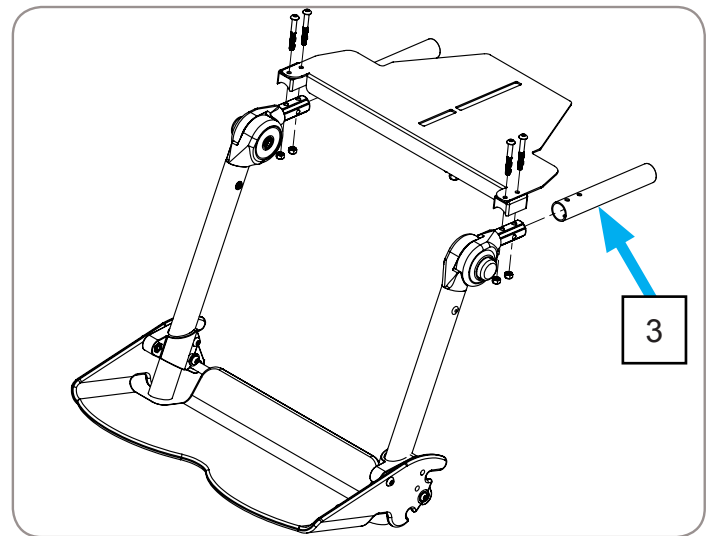

Figure 25
5. Remove short seat tubes **3** from front seat assembly. 4mm hex wrench and 10mm wrench required. Reference Figure 25.